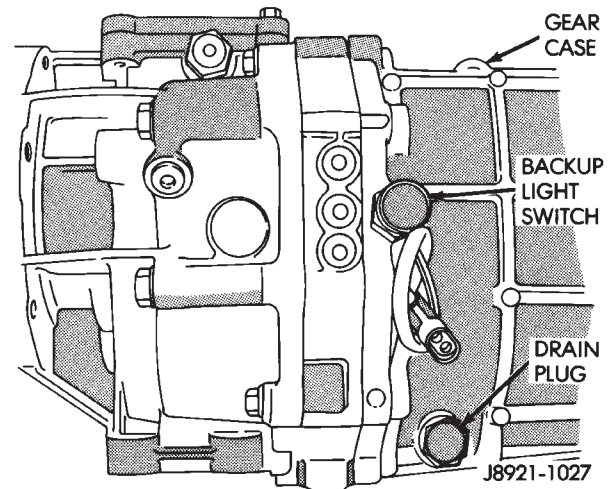

Fig. 6 Drain Plug and Backup Light Switch Location
4. Drain the transmission fluid (Fig. 6).